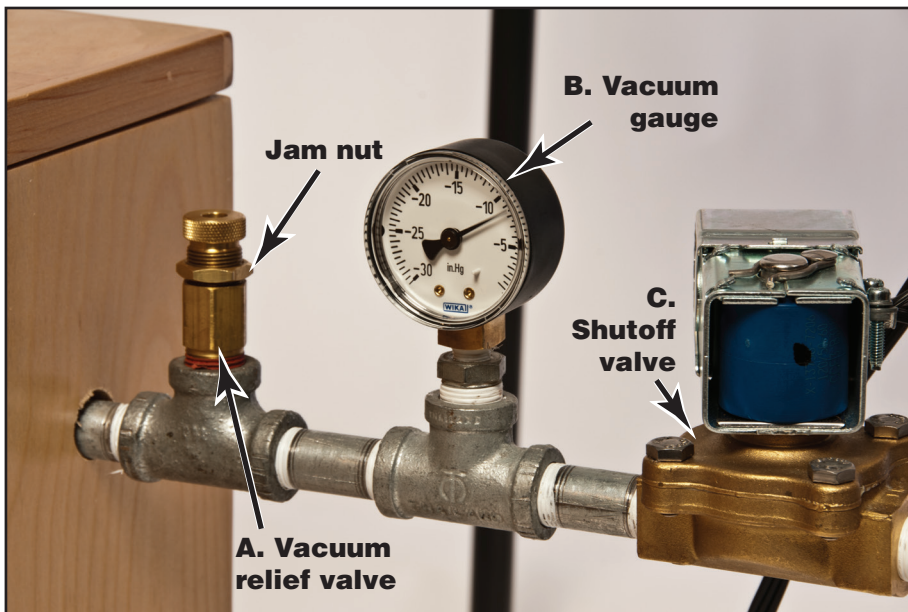
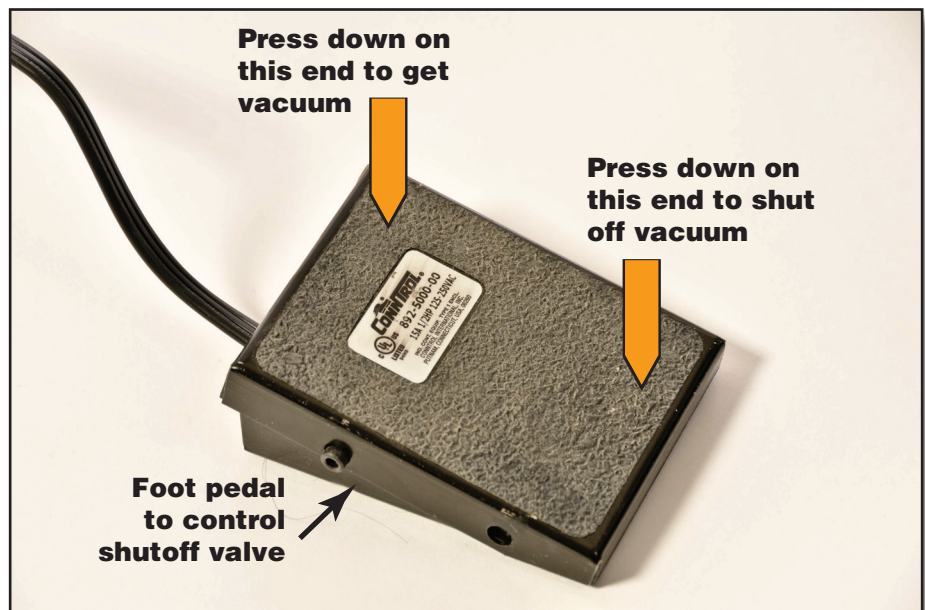

Figure 6—Vacuum control—adjustment, readings, on/off.
Figure 7—Foot pedal for vacuum control.
The electric motor and vacuum pump are connected to a vacuum relief valve (A), a vacuum gauge (B), and a foot pedal-actuated shutoff valve (C), as shown in figure 6. The foot pedal regulates vacuum control (figure 7). Turning the